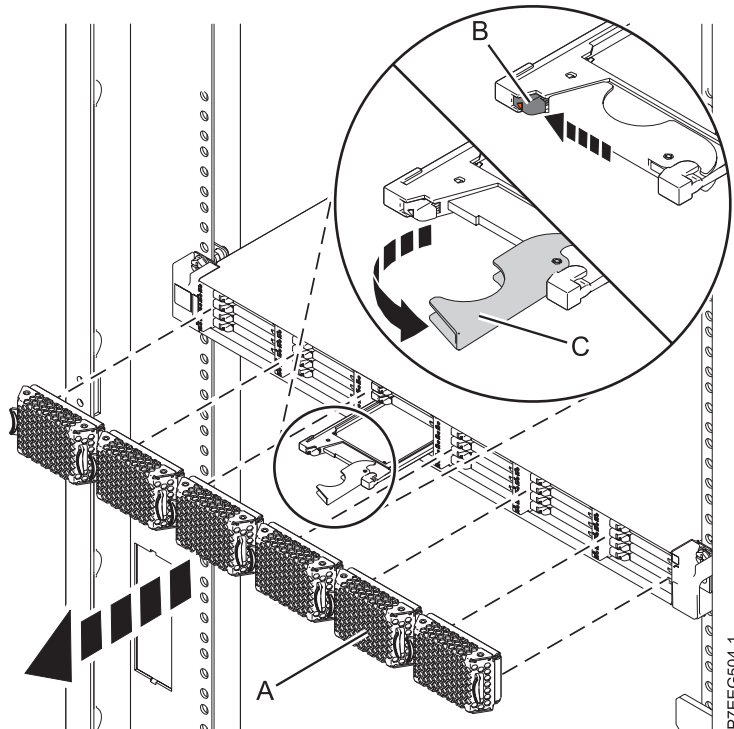

Figure 34. Removing the solid-state drive from the EDR1 PCIe storage enclosure
4. When the solid-state drive identify LED turns on solid, slide the release latch (B) over gently to unlock the drive handle. See Figure 34 on page 51.
5. Grasp the handle (C) and pull the drive partially out of the slot.